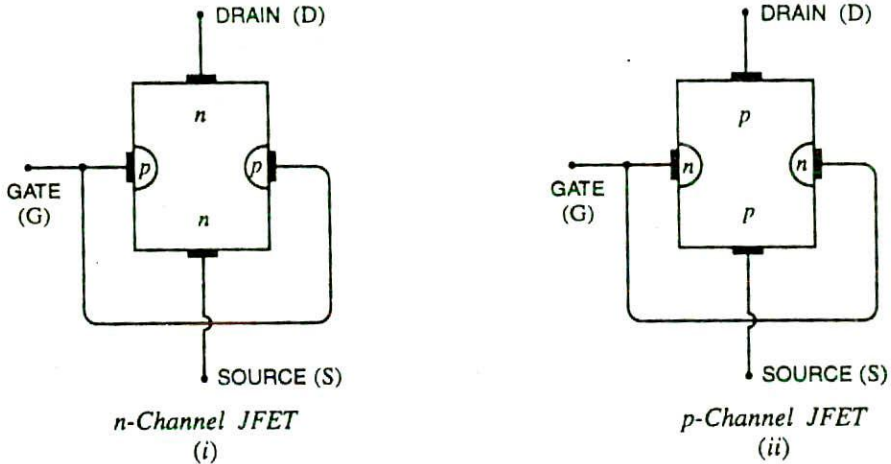

Fig. 21.1
Constructional details. A *JFET* consists of a *p*-type or *n*-type silicon bar containing two *pn* junctions at the sides as shown in Fig. 21.1. The bar forms the conducting channel for the charge
carriers. If the bar is of n -type, it is called n -channel $JFET$ as shown in Fig. 21.1 (i) and if the bar is of p -type, it is called a p -channel $JFET$ as shown in Fig. 21.1 (ii). The two pn junctions forming diodes are connected internally and a common terminal called *gate* is taken out. Other terminals are *source* and *drain* taken out from the bar as shown. Thus a $JFET$ has essentially three terminals viz., *gate* (G), *source* (S) and *drain* (D).